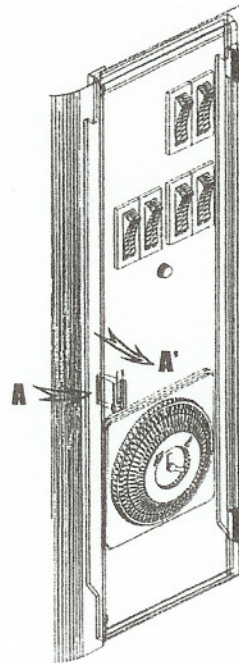

Figure 10
3. To access to switches and timer, open the switch panel cover by pushing on the side (arrow A) and pulling (arrow A') (Fig. 10).